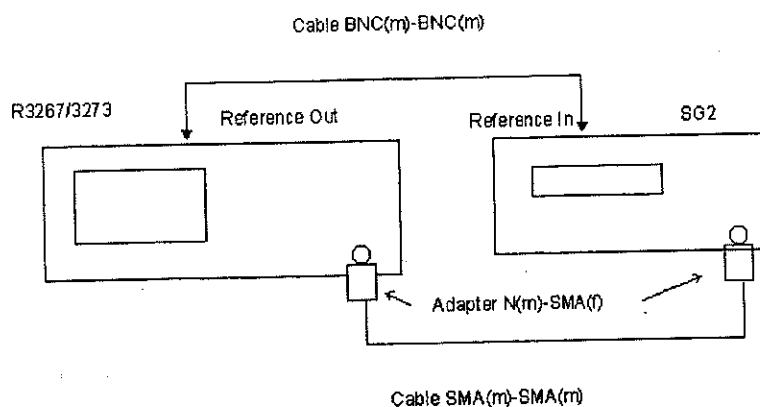

Figure 3-15 Setup of a Frequency Span Accuracy Test
1. Connect equipment as shown in Figure 3-15.